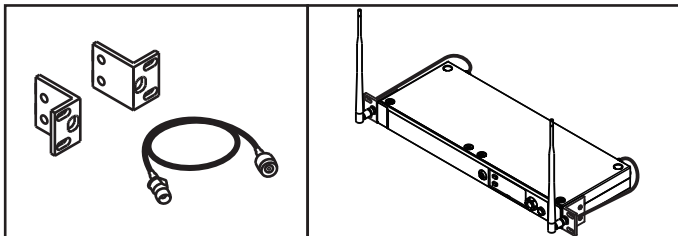

Fig. 6
- (C) Install the optional rack mount kit & rear-to-front cables for improved reception quality. Fig. 6